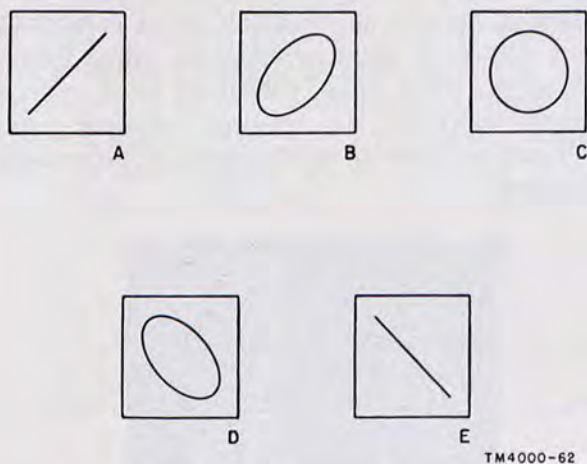

Figure 29. Phase angle patterns.
c. Refer to figure 29. If the test described in b above shows a pattern similar to that of A, that is the in-phase or 0° phase-shift condition. Then when two signals of equal amplitude and frequency are compared, B indicates a 45° phase shift; C indicates a 90° phase shift; D shows a 135° phase shift; and E shows that the two signal voltages are of opposite polarity, or that there is a 180° phase shift between them. If however, the test described in b above shows a pattern similar to that at E, that is the in-phase condition. Then D would indicate 45° ; C would still be 90° ; B would be 135° and A, 180° .